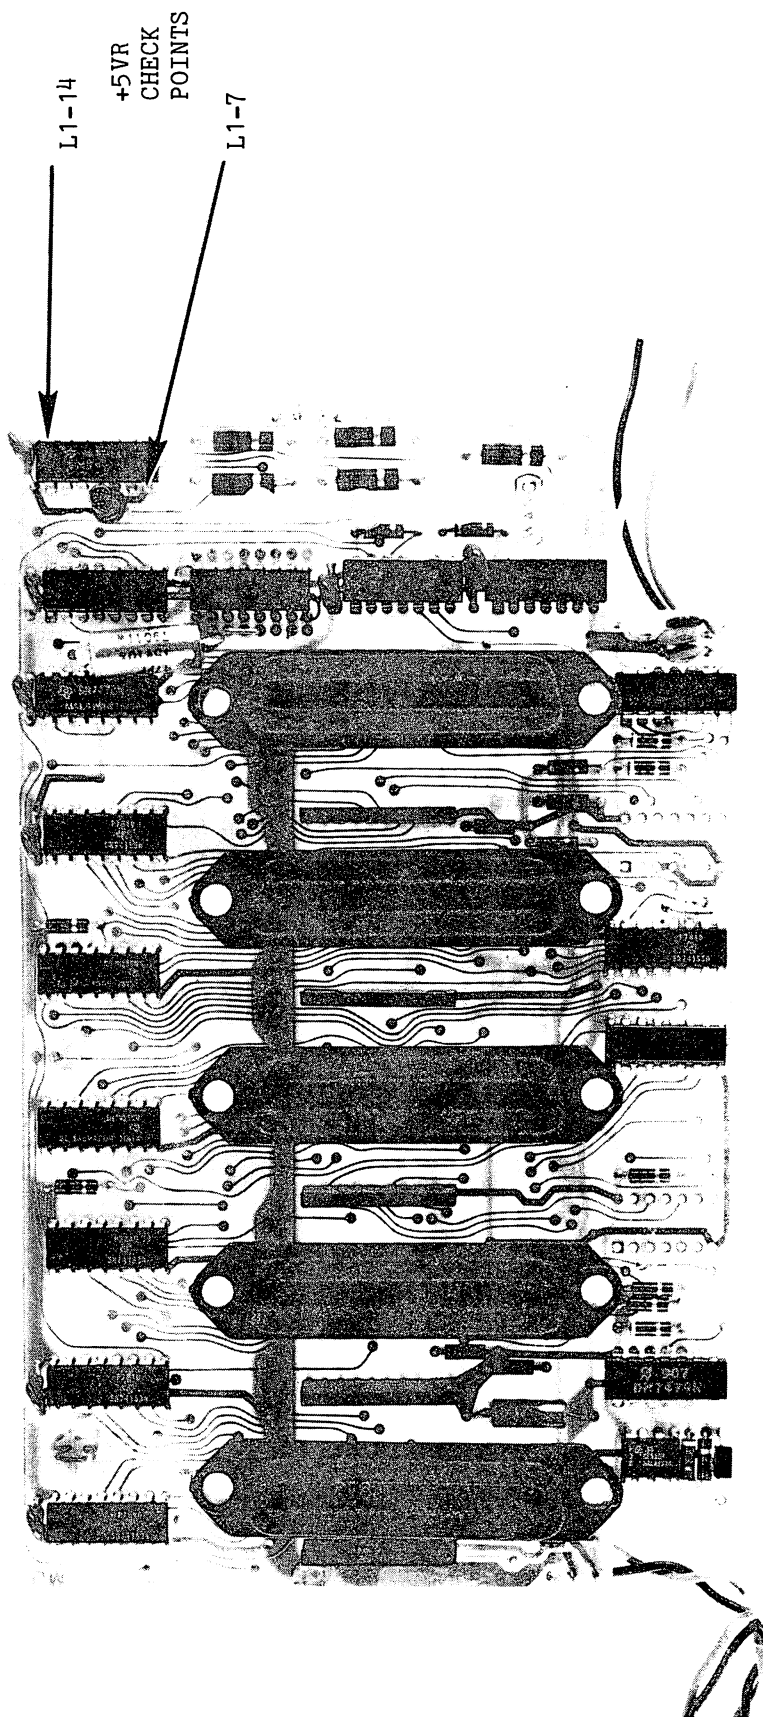

FIGURE 3-4 210-7430 PCB; +5VR CHECK POINTS
- D. Check +5VR with a digital voltmeter (dvm). This may be done by placing the negative lead of the dvm on pin 7 of L1 and the positive lead on pin 14 of L1 (ref: FIGURE 3-4). Ensure voltage is between +4.8V and +5.2V. There is no +5VR adjustment.